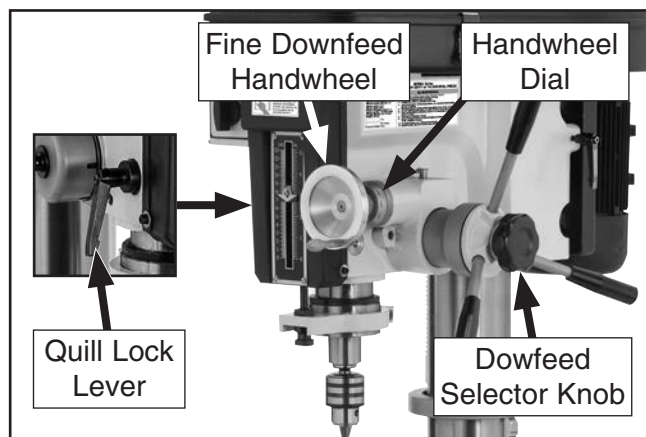

Figure 15. Fine downfeed controls.
Use the fine downfeed handwheel to control the spindle travel up or down in slow, small amounts. If necessary, you can lock the quill/spindle in a lower position with the quill lock lever (see **Figure 15**).
1. Tighten dowfeed selector knob, shown in **Figure 15**. This transfers control from downfeed levers to fine downfeed handwheel.